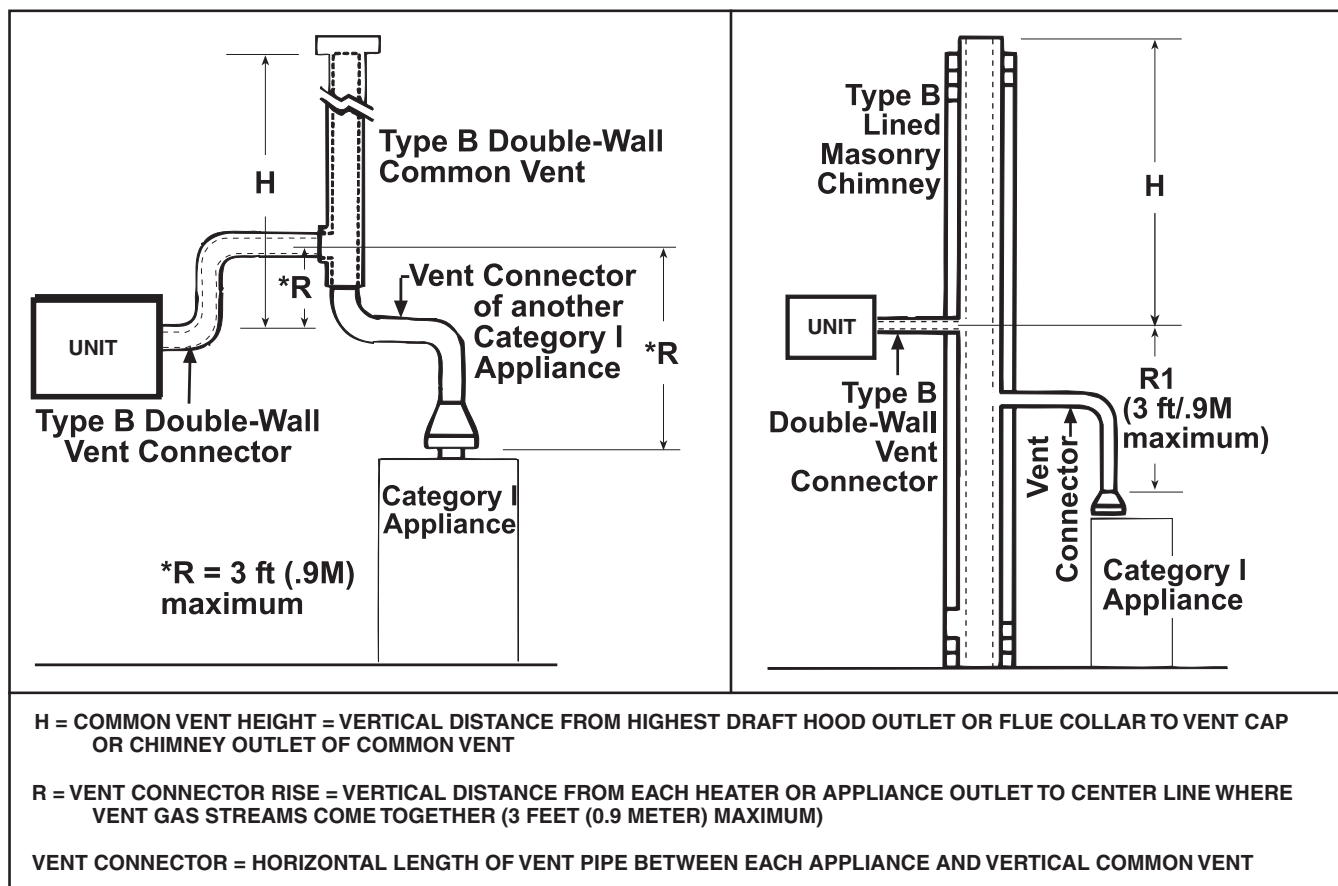

Figure 14. Typical Category I Common Vertical Vent
1. Select vent pipe and vent connector for Category I vent (see Figure 14).